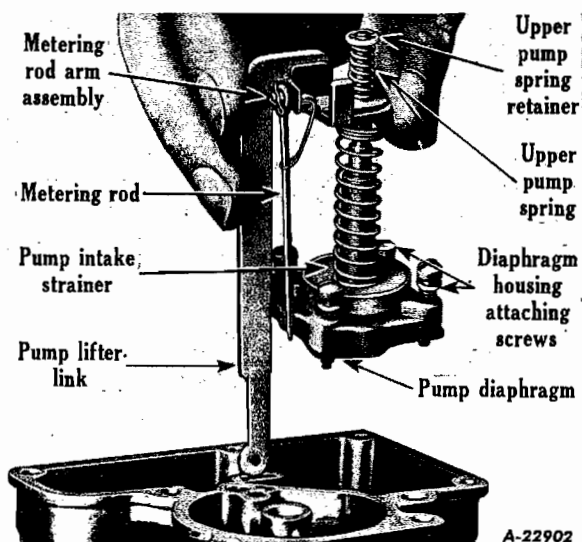

Fig. 4
There is, however, a departure in the method of controlling the fuel flow on part-throttle, wide-open-throttle and through the accelerating pump circuit as compared to carburetors previously used. A calibrated metering rod (Fig. 4) fits into the main jet. It becomes effective at low-part-throttle speeds and automatically positions itself according to the throttle opening thus producing proper fuel flow throughout part-throttle and wide-open-throttle.
The heart of the carburetor is the diaphragm (Fig. 4) which actuates the accelerating pump and the step-up action for wide-open-throttle fuel mixtures.
7. Remove diaphragm housing attaching screws, pin spring, metering rod upper pump spring retainer, upper pump spring, metering rod arm assembly, and pump lifter link (Fig. 4).
8. Remove diaphragm spring retainer, spring, and pump diaphragm assembly (Fig. 4).